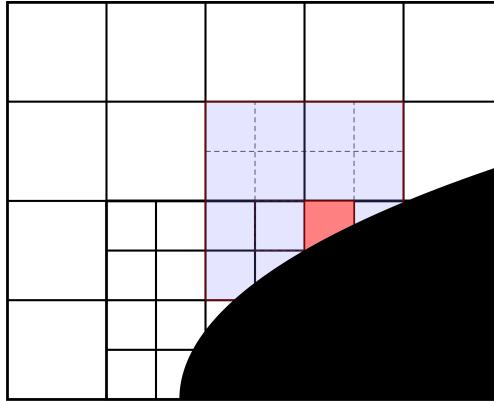

Fig. 3.6.3: Example of the region of a second order stencil for the Laplacian operator with second order gradient reconstruction on the embedded boundary.
Note that the gradient reconstruction can end up requiring more than one ghost cell layer near the embedded boundaries. For example, Fig. 3.6.3 shows a typical stencil region which is built when using second order gradient reconstruction on the EB. In this case the gradient reconstruction requires a stencil with a radius of 2, but as the cut-cell lies on the refinement boundary the stencil reaches into two layers of ghost cells. For the same reason, gradient reconstruction near the cut-cells might require interpolation of corner ghost cells on refinement boundaries.
1. Cut-cell stencils may have a large radius (see Fig. 3.6.3) and thus require more ghost cell layers.
Figure Fig. 3.6.5 shows a typical interpolation stencil for the stencil in Fig. 3.6.3. Here, the open circle indicates the ghost cell to be interpolated, and we interpolate the solution in this cell using neighboring grid cells (closed circles). For this particular case there are 10 nearby grid cells available, which is sufficient for second order interpolation (which requires at least 6 cells in 2D).